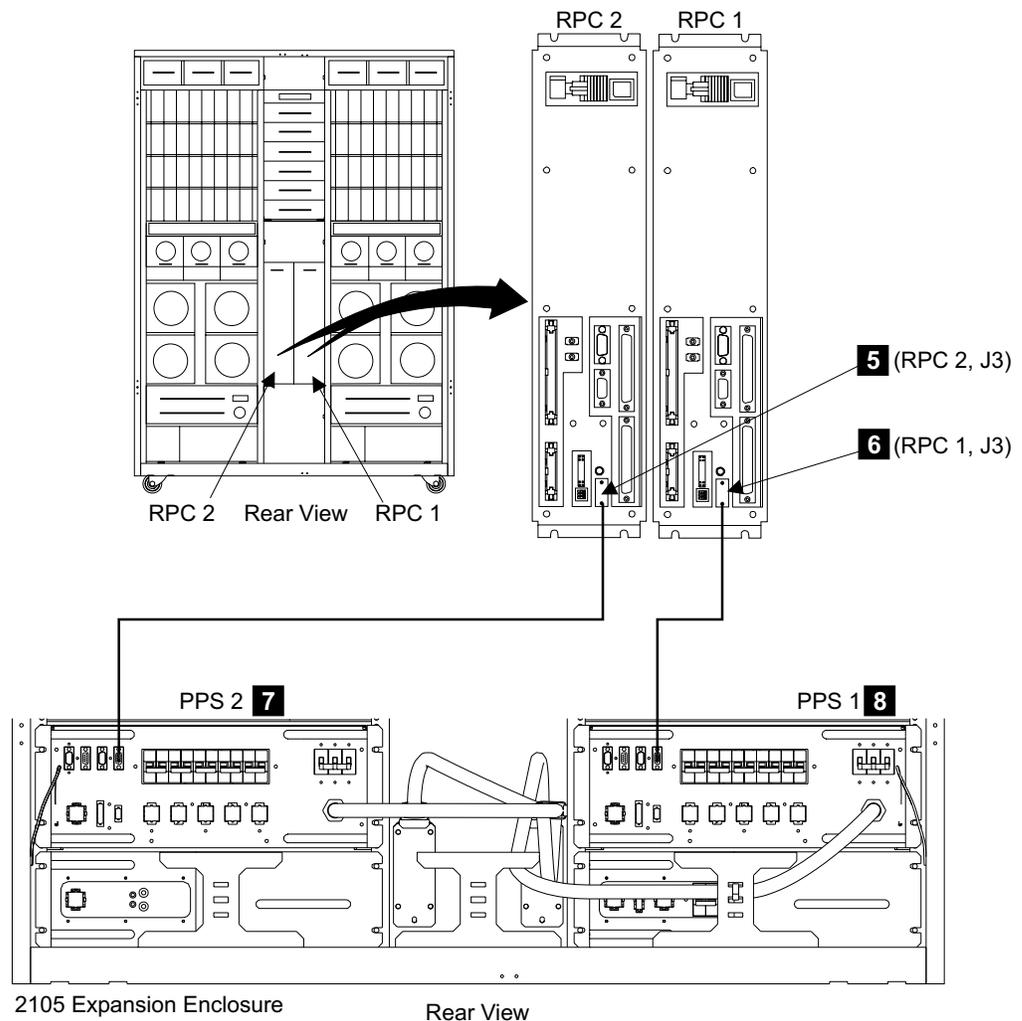

Figure 351. Primary Power Supply Control Cable Locations (S008690q)
3. Locate and disconnect the two primary power supply to RPC control cables. These cables are between the 2105 Expansion Enclosure primary power supplies 1 **8** and 2 **7** and the 2105 Model E20/F20 rack power control cards 1 **6** and 2 **5**. See Figure 351.